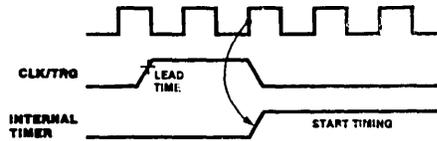

Figure 11. Timer Mode Timing
**Timer Operation.** In the timer mode, a CLK/TRG pulse input starts the timer (Figure 11) on the second succeeding rising edge of CLK. The trigger pulse is asynchronous, and it must have a minimum width. A minimum lead time (210 ns) is required between the active edge of the CLK/TRG and the next rising edge of CLK to enable the prescaler on the following clock edge. If the CLK/TRG edge occurs closer than this, the initiation of the timer function is delayed one clock cycle. This corresponds to the startup timing discussed in the programming section. The timer can also be started automatically if so programmed by the channel control word.